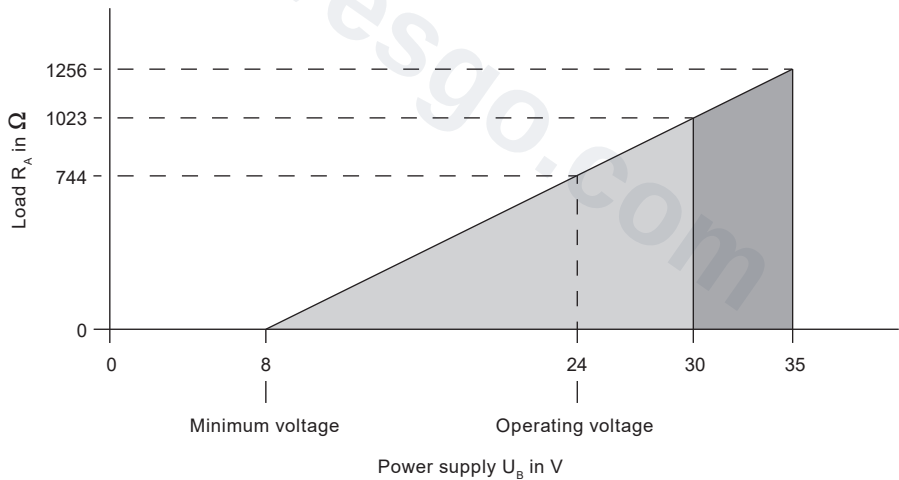

Fig. 5
Maximum loop resistance (RA) (See note 3)	$\leq (UB - 8 \text{ V}) / 0.0215 \text{ A}$ with RA in Ω and UB in V. See Figure 5